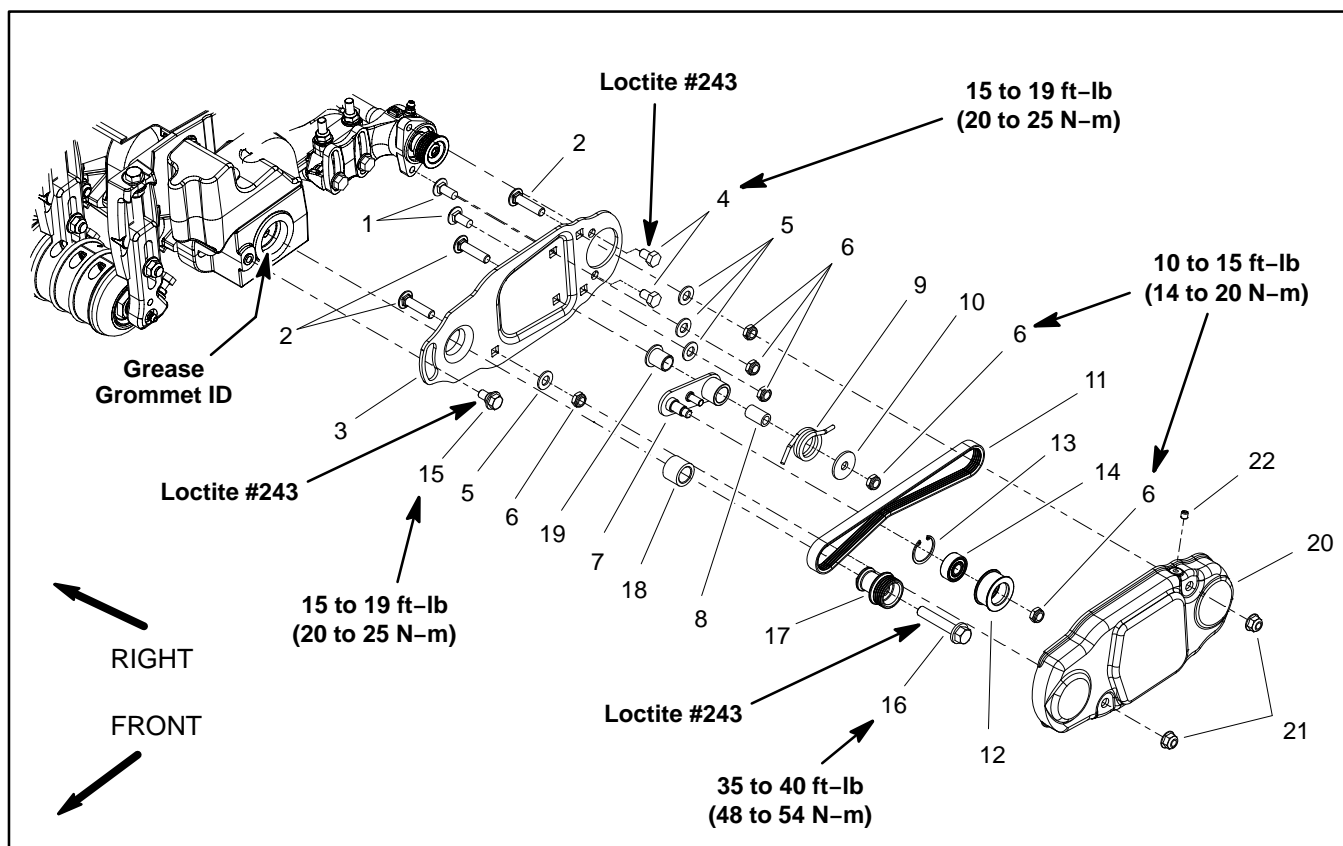

Figure 66
Drive System Disassembly (Fig. 66)
2. Remove cover (item 20) to access rear roller brush drive components.
3. Remove roller brush drive components as necessary using Figure 66 as a guide.
Drive System Assembly (Fig. 66)
C. Position housing to cutting unit side plate and secure to cutting unit with two (2) socket head screws.
2. Assemble roller brush components using Figure 66 as a guide.
A. During assembly, apply Loctite #243 (or equivalent) to threads of fasteners and torque fasteners as shown in Figure 66.
C. Brush plate should be installed so that idler pulley assembly is toward the bottom of the plate. Also, the shoulder bolt (item 15) should not clamp the brush plate to the drive housing during assembly.
D. When installing drive pulley (item 17), make sure that tabs on pulley engage slot in drive shaft.
E. Idler arm (item 7) should be free to rotate after assembly to brush plate. Make sure that idler spring is installed so that it can rotate the idler arm and pulley and apply tension to the drive belt.